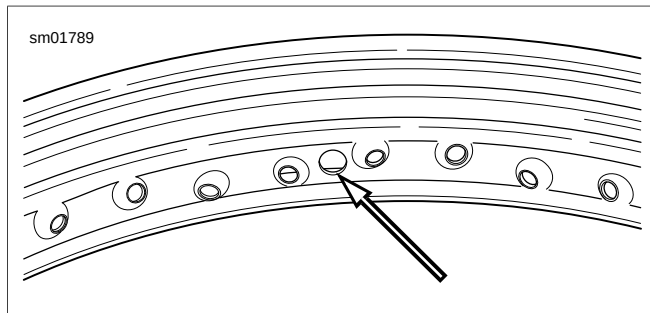

Figure 2-33. Valve Stem Hole Location
- See Figure 2-33. The valve stem hole is centered of the rim; you do not have to worry about choosing the correct relationship between the rim and the hub.